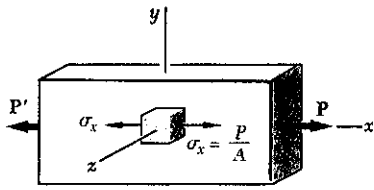

Fig 1.40 (a)
2.74 For a member under axial loading, express the normal strain  $\epsilon'$  in a direction forming an angle of  $45^\circ$  with the axis of the load in terms of the axial strain  $\epsilon_x$  by (a) comparing the hypotenuses of the triangles shown in Fig. 2.54, which represent respectively an element before and after deformation, (b) using the values of the corresponding stresses  $\sigma'$  and  $\sigma_x$  shown in Fig. 1.40, and the generalized Hooke's law.